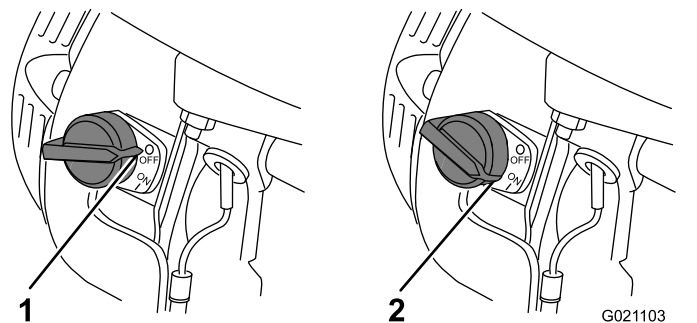

Figure 36
5. Move the engine switch to the ON position (Figure 36).